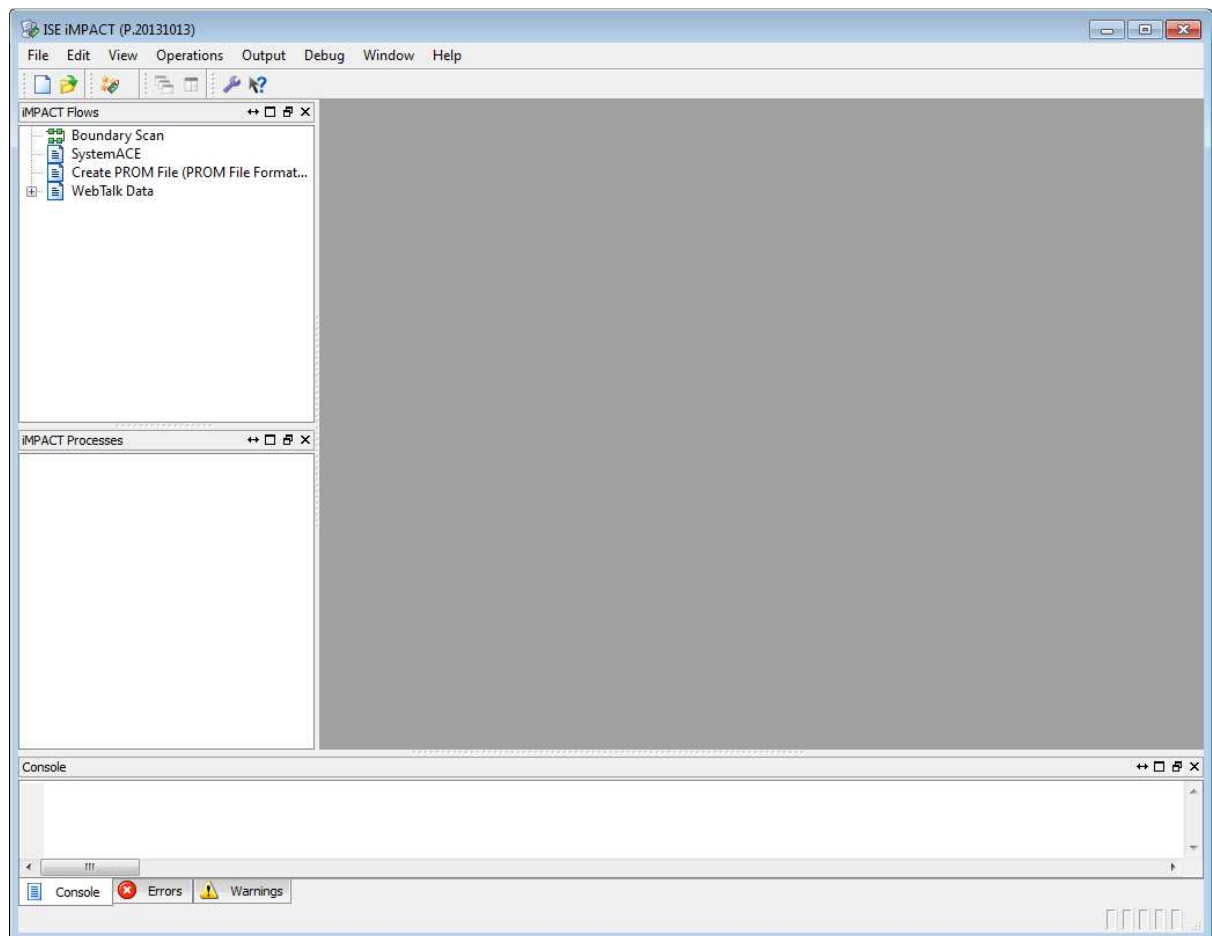

Figure 3.29: The initial iMPACT window.
4. Double-click on **Manage Configuration Project (iMPACT)**. The iMPACT window should appear as shown in Figure 3.29.